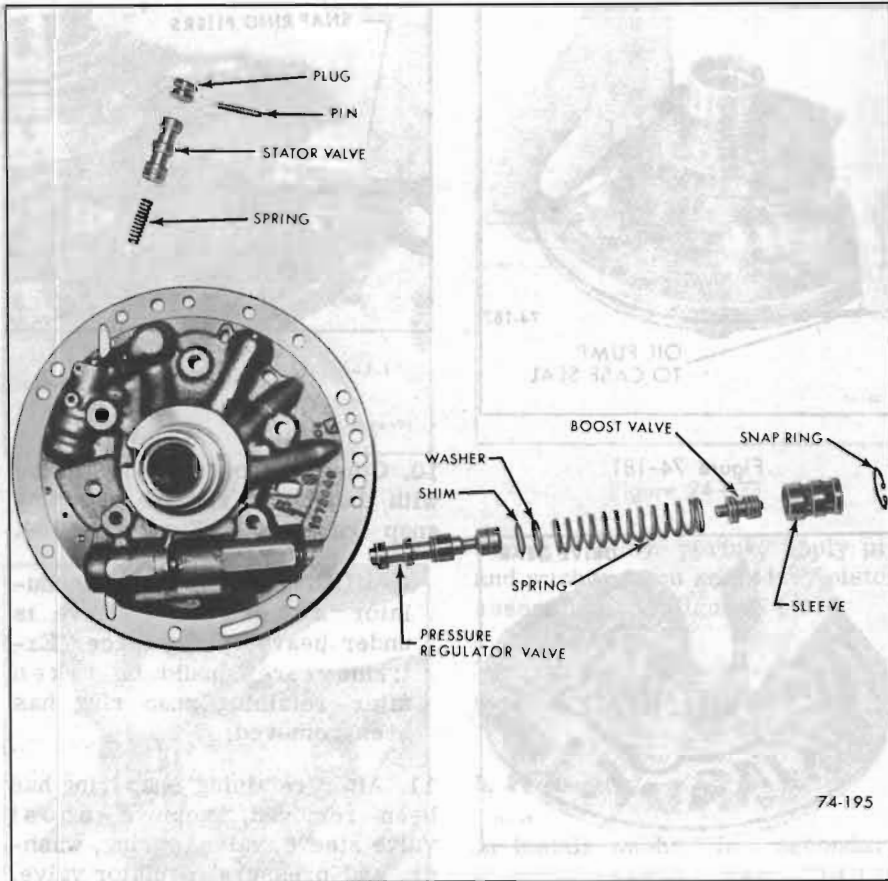

Figure 74-185
11. After retaining snap ring has been removed, remove boost valve sleeve, valve, spring, washer, and pressure regulator valve. See Figure 74-185.
12. Remove retaining pin, plug, stator valve and spring. See Figure 74-185.
valve, shim, washer, spring, reverse and modulator boost valve and sleeve. See Figure 74-185.
valve, plug and retaining pin. See Figure 74-185.